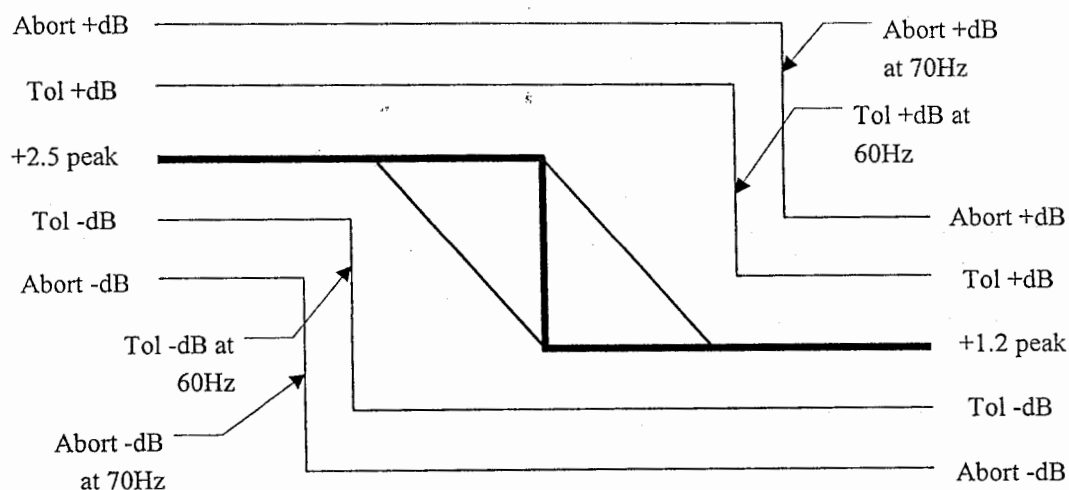

Figure 4-17. Swept Sine Step Change Test with Correct Limits.
You must adjust your Sweep Control Limits (and Monitor) screen to adjust for the slower analog Response signal from the shaker. Refer to Figure 4-17. As shown in the graph, the adjustment serves two purposes:
- a. In Figure 4-17, the two acceleration control values are 2.5 and 1.2. The difference would be the following formula.:
- b. In Figure 4-17, the limits from the Breakpoints: Control Limits screen are adjusted by 10 Hz each.
3. Insert the five frequencies determined in step 2 as five sequential breakpoint lines. Start with the lowest frequency and go sequentially to the highest frequency. Note that the five frequencies are inserted between the original breakpoint lines. See Figure 4-17.
4. Use the difference found in step 1 to program the five frequency breakpoints as shown in Figure 4-17:
- c. Add the difference to Tolerance +dB and Abort +dB on the third frequency breakpoint. (The third breakpoint occurs at the step change frequency.) Return the Tolerance -dB and Abort -dB to their normal levels (i.e., 3 dB and 6 dB on Figure 4-17).